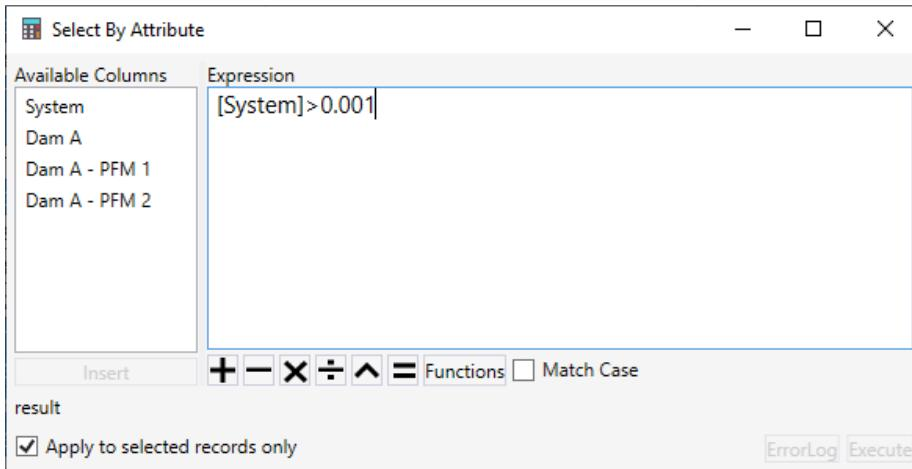

Figure 4.42: Select By Attribute dialog.
- **Select Rows By Attribute.** Opens the Select By Attribute dialog box (Figure 4.42), allowing you to perform queries, make selections, and locate features in the table.